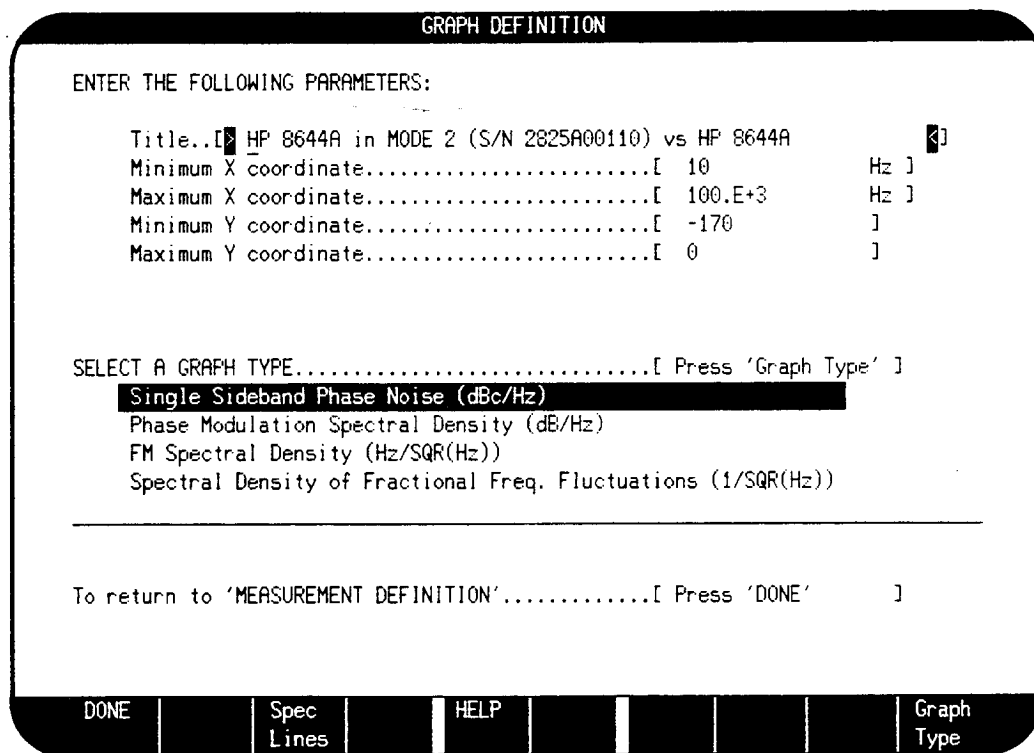

Figure 8-12. Graph Definition Menu
10. On the HP 3048A press the Define Graph softkey to obtain the Graph Definition menu. Set the graph parameters and graph type as shown in figure 8-12. Change the title as appropriate for your particular setup. (You may wish to include the serial number of the device under test for example. Note that date, time, and carrier frequency information will automatically appear on the measurement result graph.) When done, press the DONE softkey.